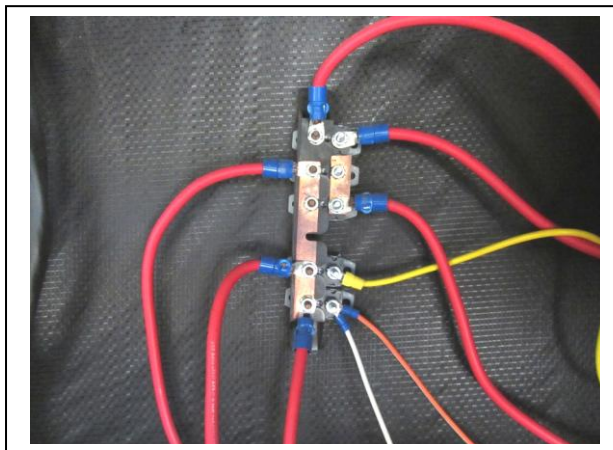

Fig.15. Tie to + 12V Bus Bar connected to battery +ve terminal
- If a spare slot is not available connect directly to 12 battery terminals. A distribution bus bar and grounding lugs with direct connections to the battery terminals are convenient to obtain the +12 V (**Fig. 15**) and Ground (-12V) (**Fig. 16**) connections.